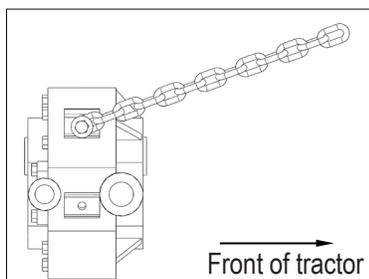

figure 4
3. Fasten the 10-link chain to the bottom threaded hole on the right-hand side of the pump. Bolt the other end of the chain to the tractor. The chain must be attached to a position on the tractor that is above and forward of the connection on the pump. The chain must also be taught. (Refer to figure 4)